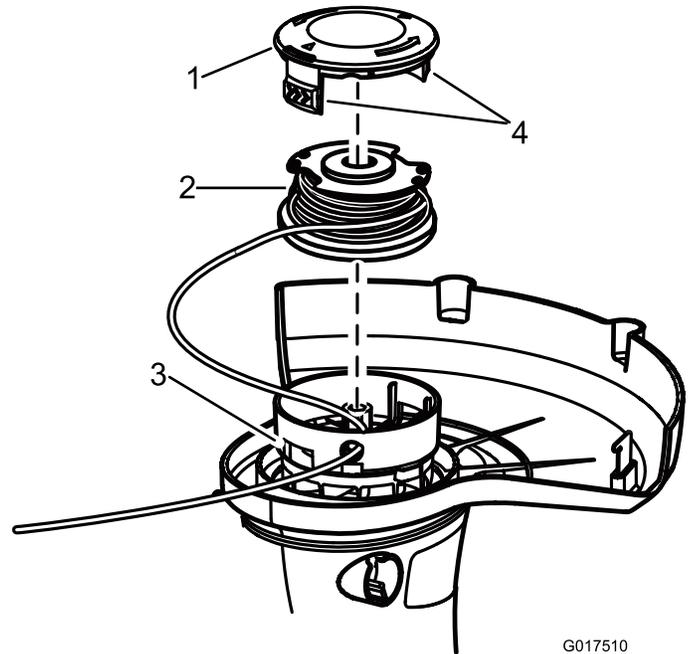

Figure 13
2. Push in the tabs on the side of the spool retainer (Figure 13).
2. Remove the spool; refer to Replacing the Spool (Figure 13).